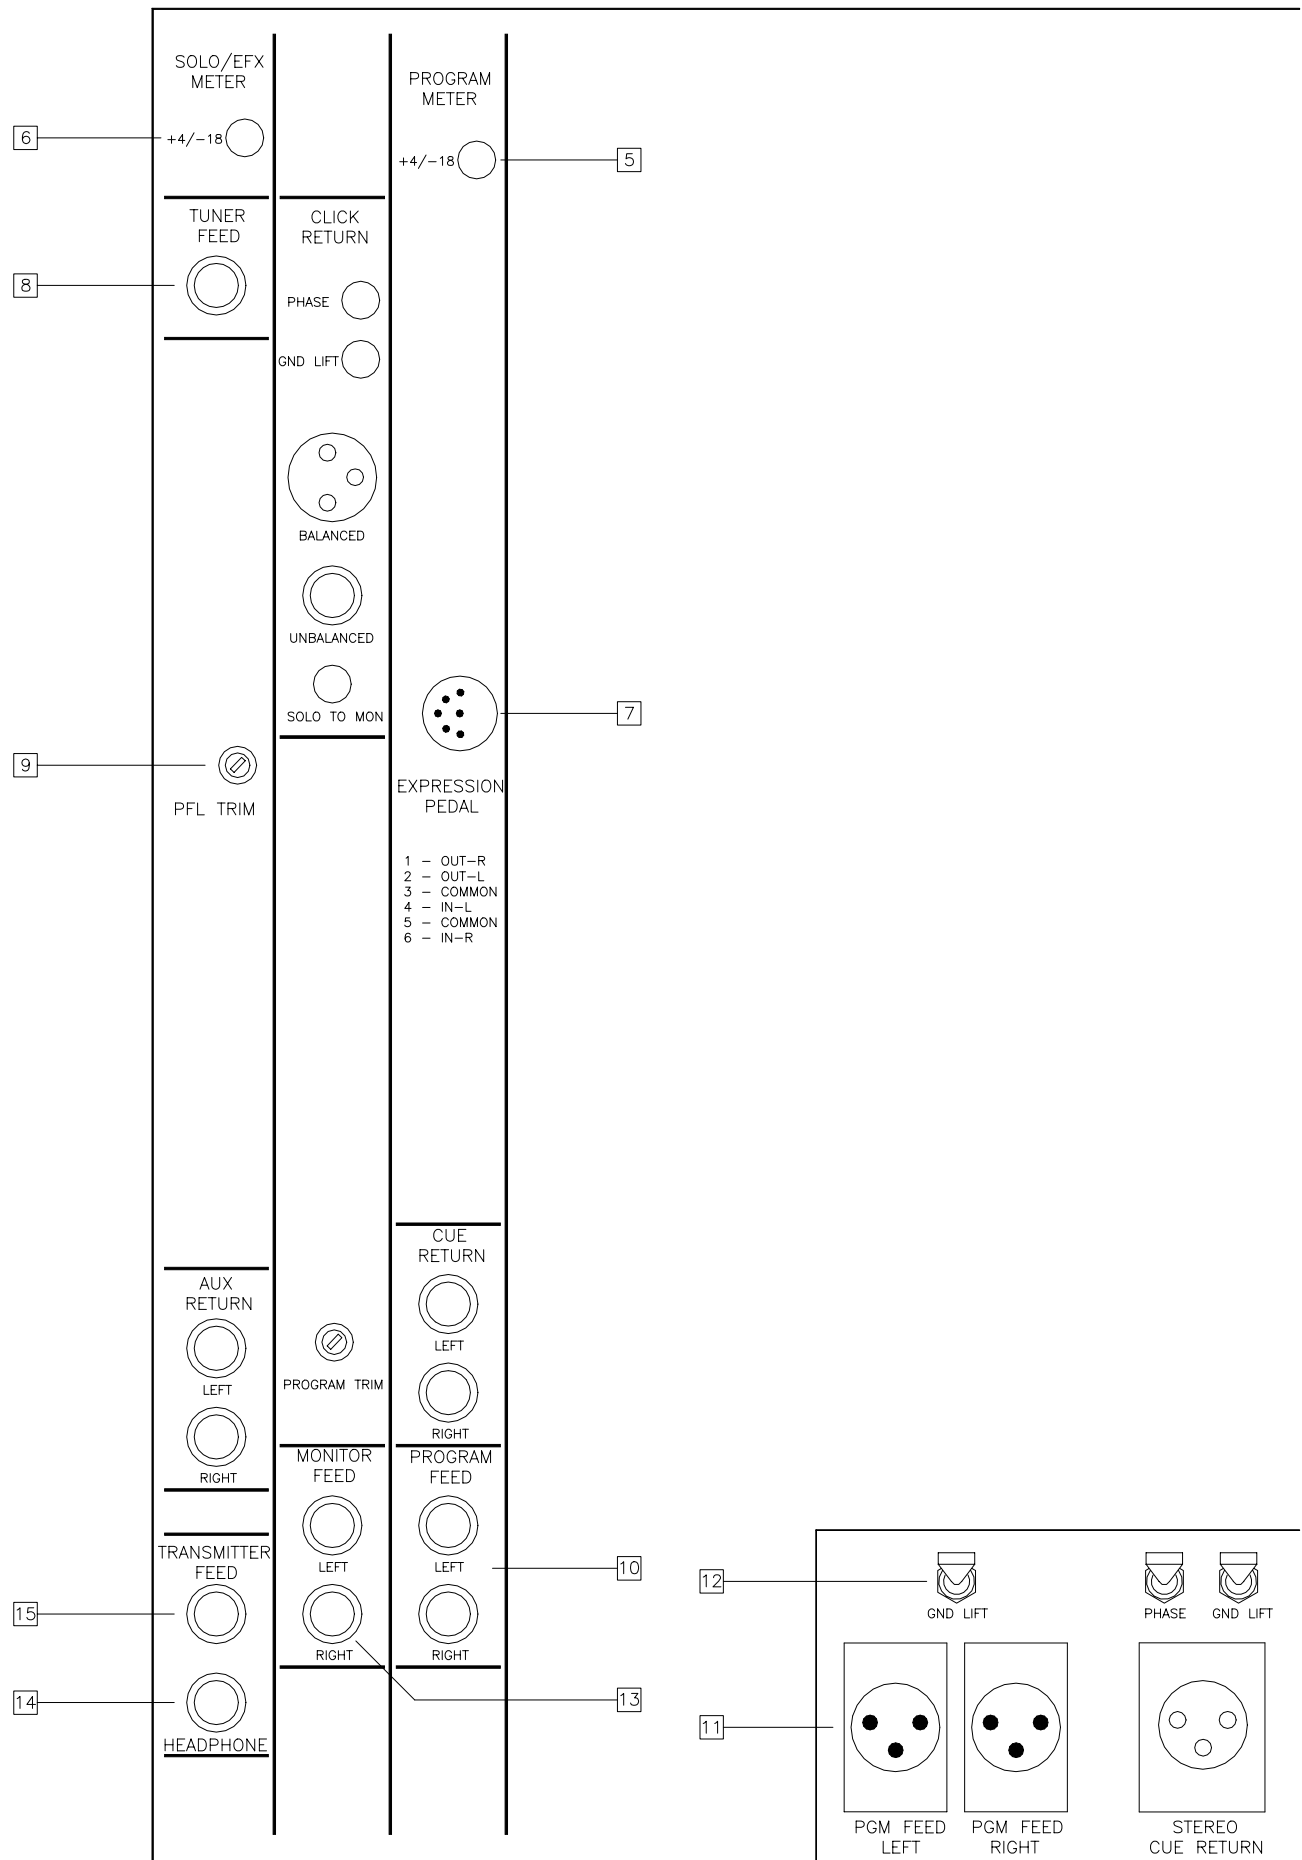

Figure 9. Master Input/Output Connectors
Refer to Figure 9 for location of items 5 thru 15.